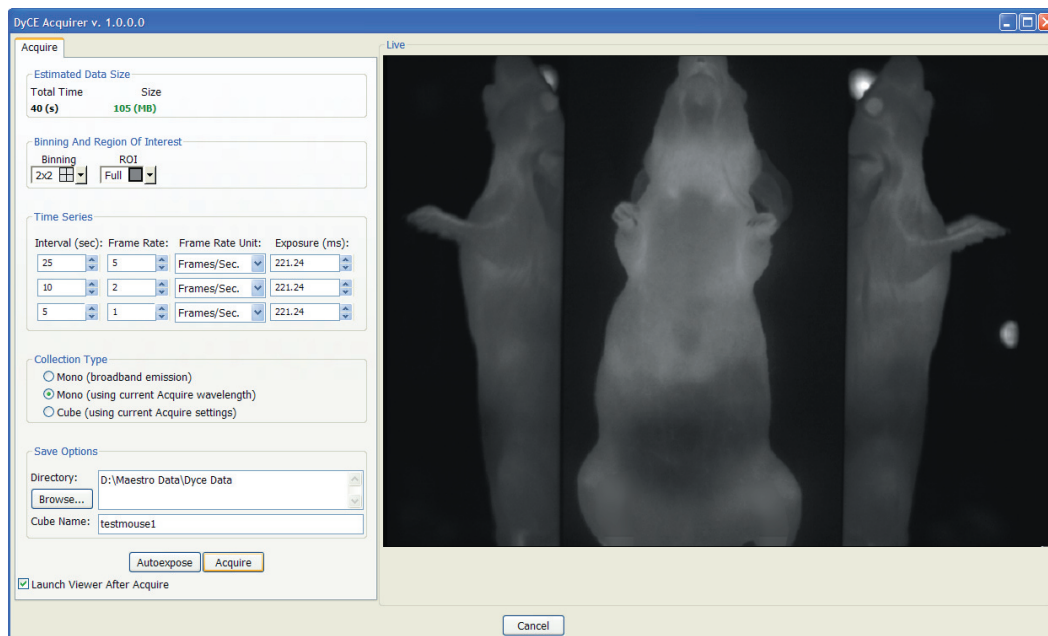

Figure 71. DyCE Acquire
2. Configure the **Time Series**: For example, as shown in Figure 71 above, you might want to capture 5 frames per second for the first 25 seconds, with an exposure time of 221 ms per frame. The next 10 seconds will capture 2 frames per second. During the final 5 seconds, the system will capture just 1 frame per second.